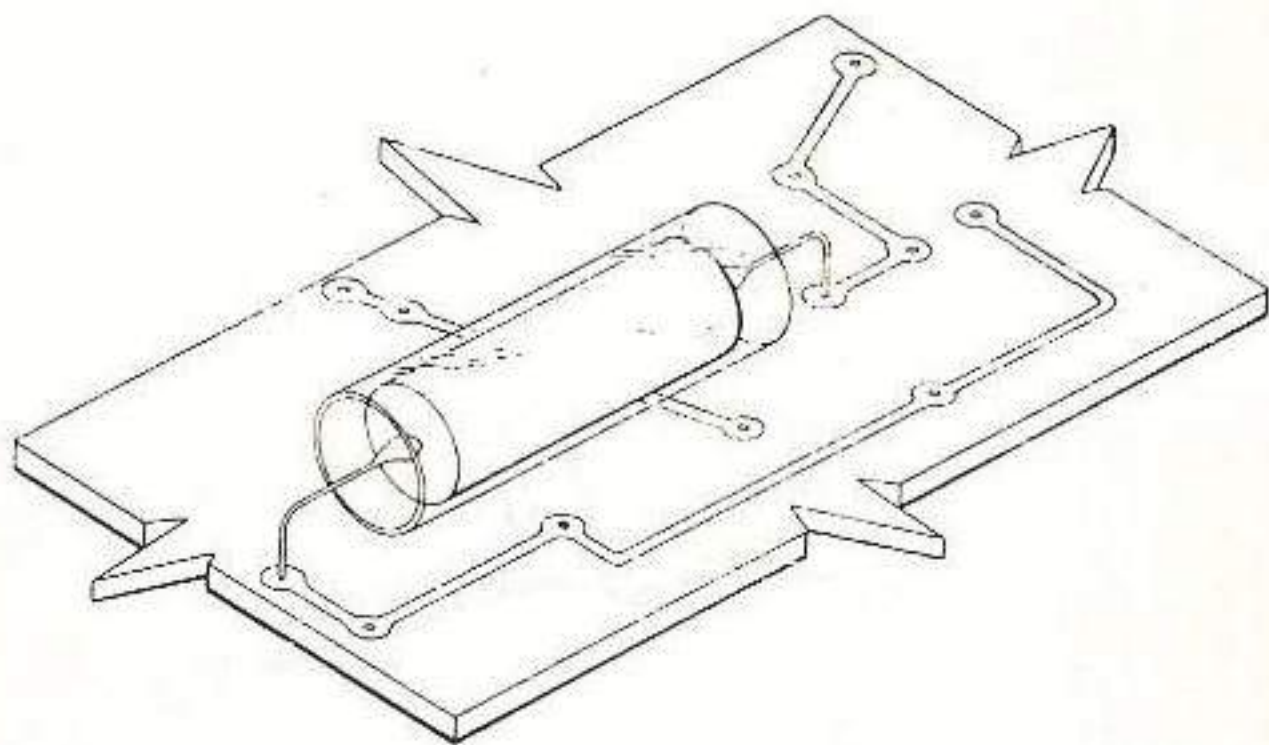

Figure 31. Crossing Conductive Lines
b. Components such as metal case capacitors will be insulated with approved clear tubing when mounted over conductor lines. See figure 31.